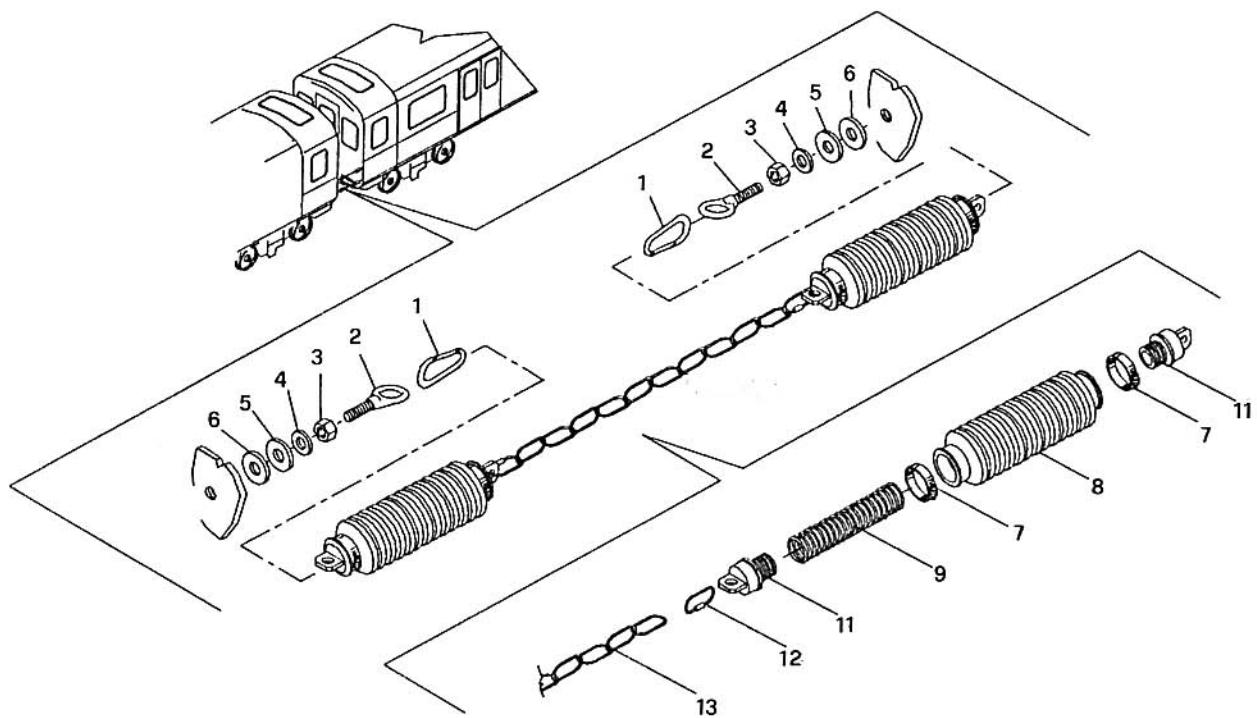

Figure 2-10. Intercar Barriers Installation/Removal/Disassembly/Reassembly
- (1) Unhook both spring catches (1) and have the chain free (see Fig. 2-10)
- (2) Stow the chains in the cabinet located in the passenger cab area, in front of the double transverse seat.
2-7.4.5 Chains Disassembly/Reassembly (See Figure 2-10)